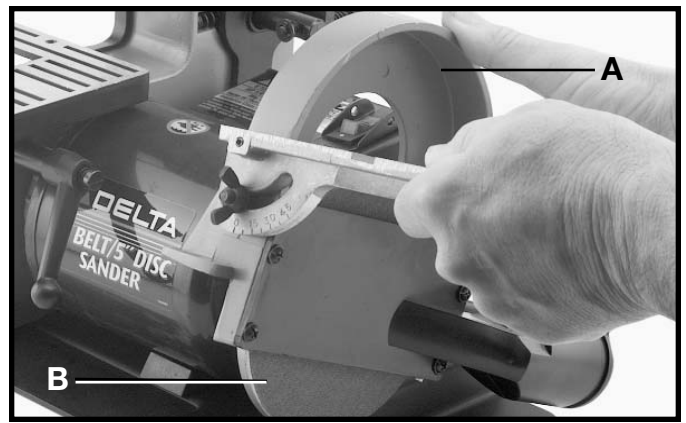

Fig. 8
2. Position the sanding disc guard with table (A) Fig. 8, over sanding disc (B).